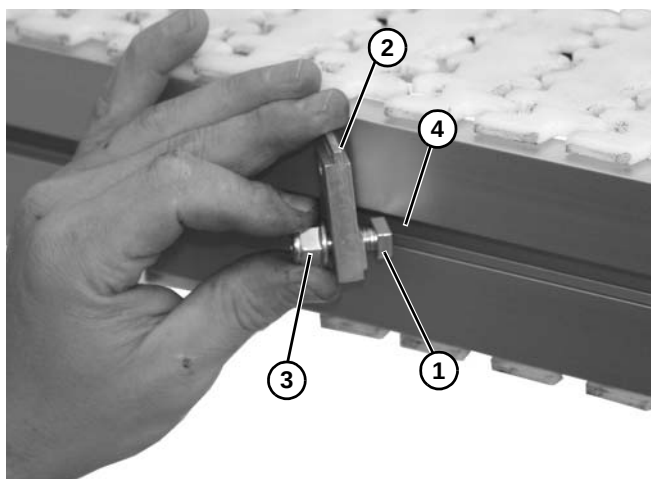

Figure 34
1. Install stud (**Figure 34, item 1**) onto retaining clip (**Figure 34, item 2**) with nut (**Figure 34, item 3**).
2. Install stud (**Figure 34, item 1**) into side rail channel (**Figure 34, item 4**). The end clips should be no greater than 12" from end of the conveyor.